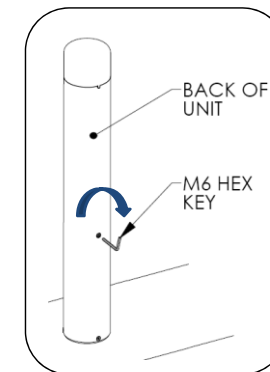

Fig. 6 – Remove ash tray
1. Tighten M8 hex head screw on back of unit, see Fig. 6. Screw will remain in ash tray component.